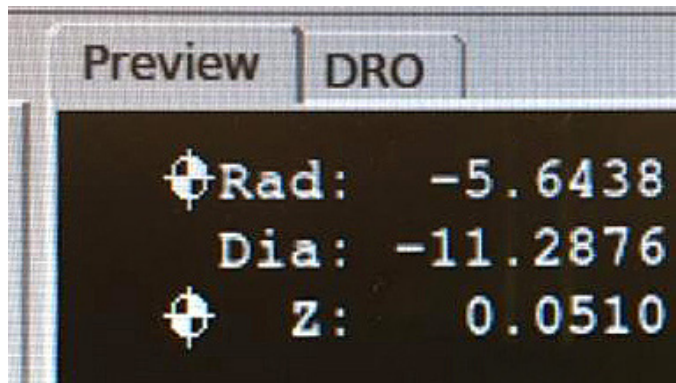

FIGURE 4
4. If you are going to be using the gang tooling tool post for most of your parts, it decrease your set up time if you indicate in each of the 3/8" holes. Move your machine until it hits the hard stops. Then move one full revolution (2.0mm) away from the hard stop. Zero out your X-axis. Place a test indicator in a collet in the headstock. Then use the jog mode and jog the first hole over to the spindle centerline. Using the Jog Increment function move the X and Z-axis until the hole is indicated in. Write down the X-axis position for the first hole. NOTE: Make sure to write "Rad" or "Dia" for your X-axis position depending on how you are going to program your parts. The control page shows both values (see Figure 4).